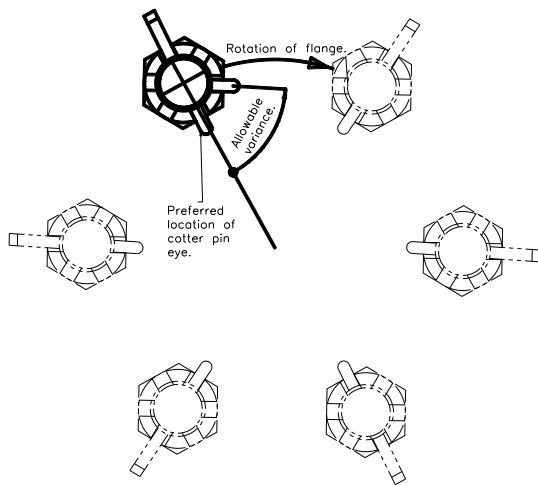

Figure 1
3. Place the spinner aft cone and face plate on the front hub face and insert bolts through the assembly. The bolt heads must be aligned with the face plate to avoid rotation. The drilled cotter pin hole must be aligned as shown in **Figure 1**. Install washer(s) and castellated nuts finger tight lubricated with AeroShell 22 grease or equivalent (MIL-G-81322D). The nuts must thread on bolts freely.
- Install cotter pins, reference **Figure 1**.